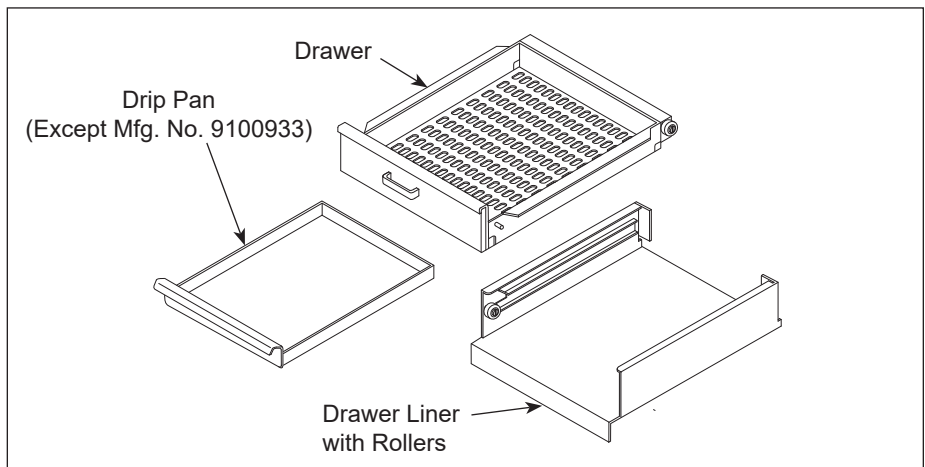

Figure 2. Washing Parts—MS-255 Only
5. **MS-255:** Remove and wash the Drawer, Drawer Liner with Rollers, and Drip Pan (Figure 2) in soap and water. Rinse with clean hot water and allow to air dry.